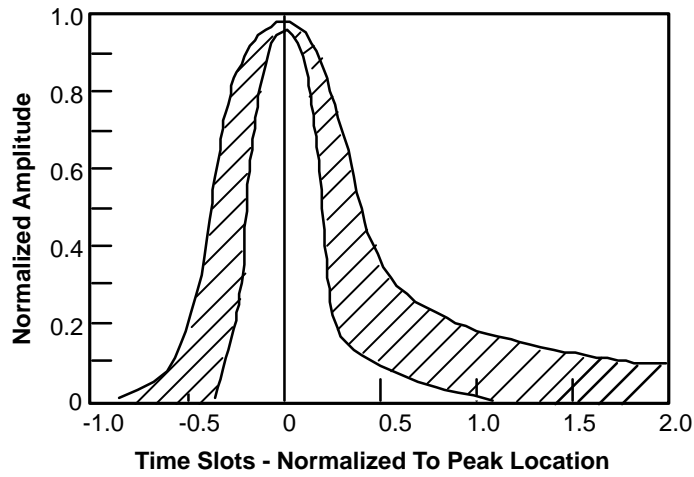
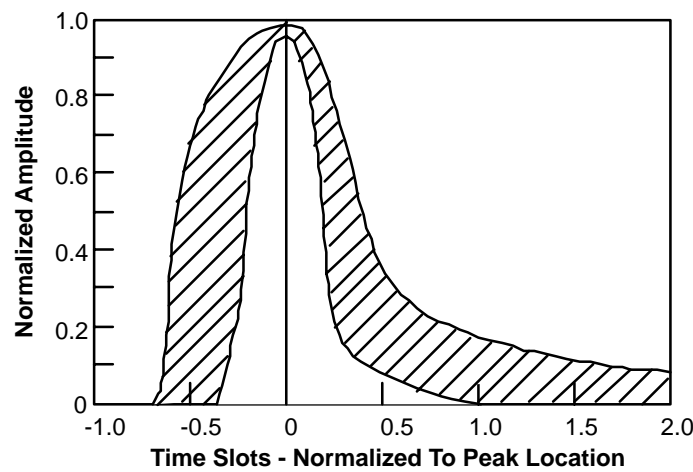

Figure 4. DSX-3 Isolated Pulse Template for ACCUNET T45 Standards
Figure 5. DSX-3 Isolated Pulse Template for G.703 Standards
requirements exist: the ACCUNET T45 pulse template (see *Table 3* and *Figure 4*) and the G.703 pulse template (see *Table 4* and *Figure 5*). *Table 3* and *Table 5* give the associated boundary equations for the templates. The XR-T7295 correctly decodes any transmitted signal that meets one of these templates at the cross-connect.
| Pulse Shape | An isolated pulse must fit the template in Figure 4 or Figure 5 . ¹ The pulse amplitude may be scaled by a constant factor to fit the template. The pulse amplitude must be between 0.36vpk and 0.85vpk, measured at the center of the pulse. |
- ¹ The pulse template proposed by G.703 standards is shown in *Figure 5* and specified in *Table 4*. The proposed G.703 standards further state that the voltage in a time slot containing a 0 must not exceed \pm 5% of the peak pulse amplitude, except for the residue of preceding pulses.
Table 3. DSX-3 Pulse Template Boundaries for ACCUNET T45 Standards (See *Figure 4*.)
Table 4. DSX-3 Pulse Template Boundaries for G.703 Standards (See Figure 5)